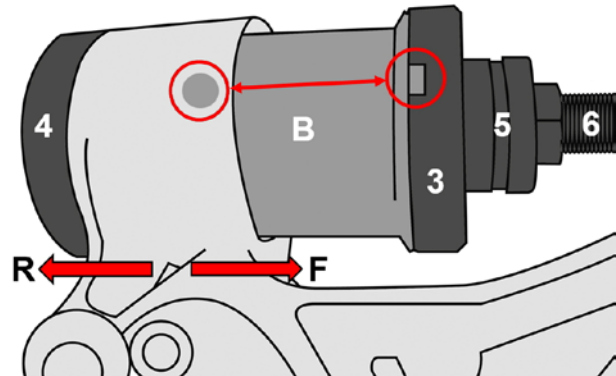

Fig.3
3. Align the bushing with the marking on the wishbone (Fig. 3). Mount the nut (5) on the threaded bolt.